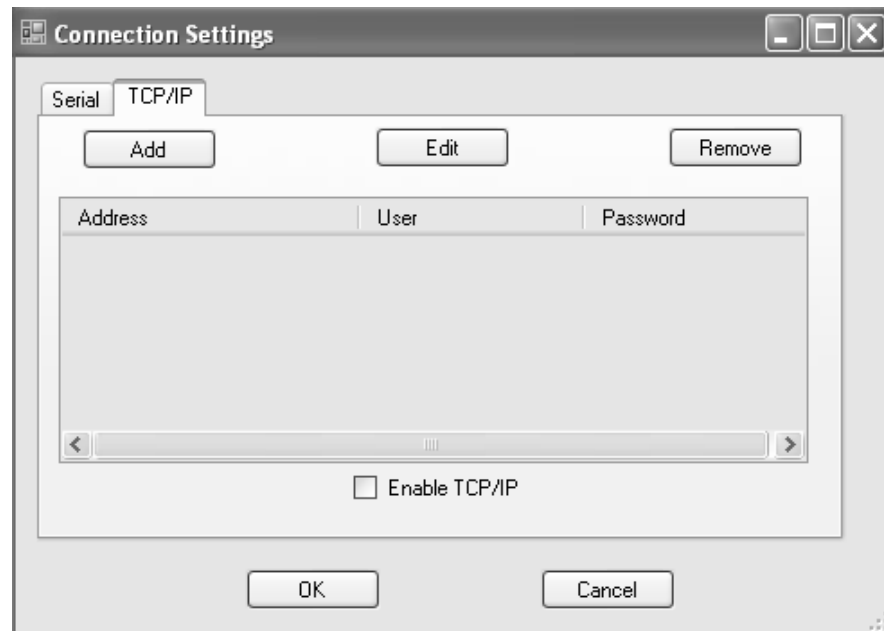

Fig. 2-7. Screenshot of 'TCP IP' selection in the 'Connection Settings' dialog box. TCP/IP connection setting is established here.
- In the setting dialog box, choose the 'TCP IP' tab. The below pop up 'Connection Settings' dialog box will be shown (See below Fig. 2-7).